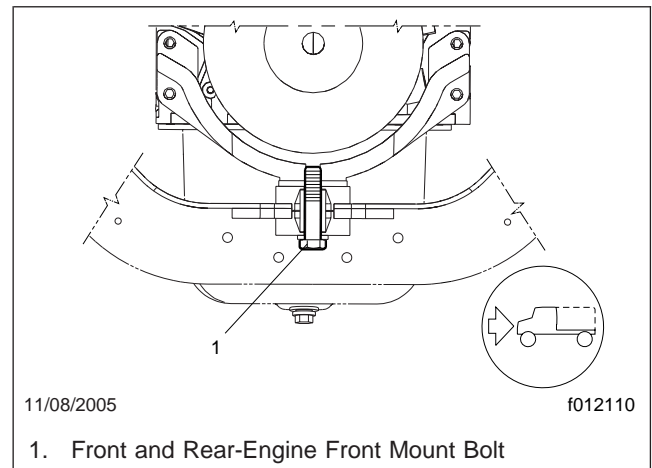

Fig. 2, Front and Rear-Engine Front Mount (ISB chassis built after 2002)
2. Check the 3/4-10 front engine-mount bolt. See Fig. 2. Tighten it 95 lbf-ft (128 N·m).